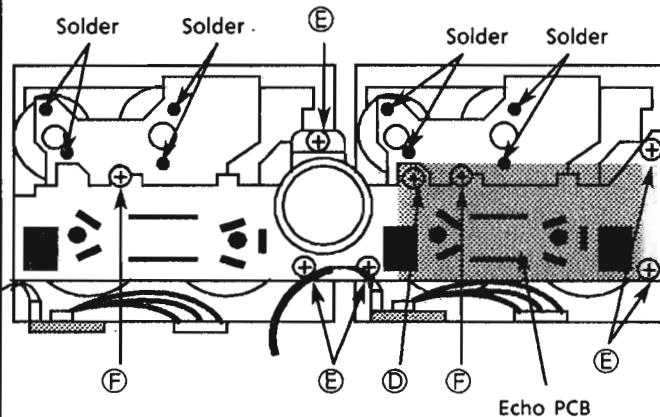

Fig 20
4. Remove the 7 screws (E, F) fixing the bracket (Fig 20).
3. Remove the 7 screws ⑤, ⑥ fixing the bracket (Fig 20).
5. Remove the 4 screws ⑦ fixing the reel and cam motor.